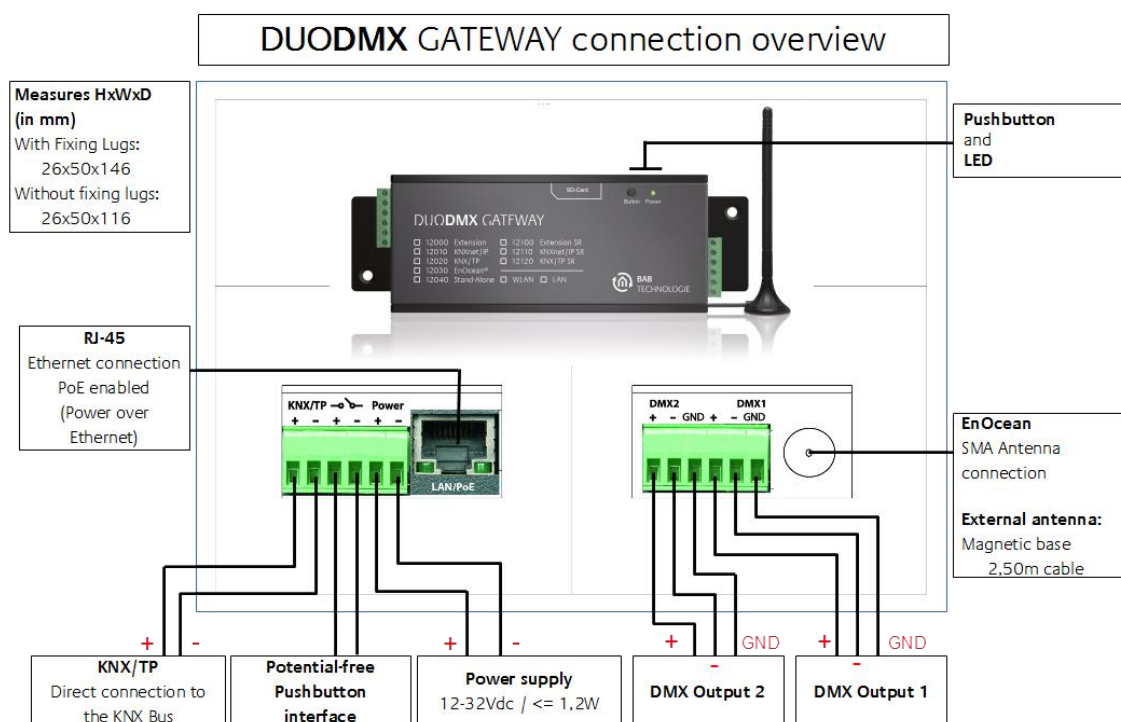

Figure 3: DUODMX GATEWAY – connection diagram
As a first step, connect a conventional 12-32V voltage supply (DC) to the appropriate pluggable screw terminals or to a PoE network connection (Figure 3) and connect the DUODMX GATEWAY to the network. The green power LED is continuously on once the device has been started. The second step is the configuration of the network settings.